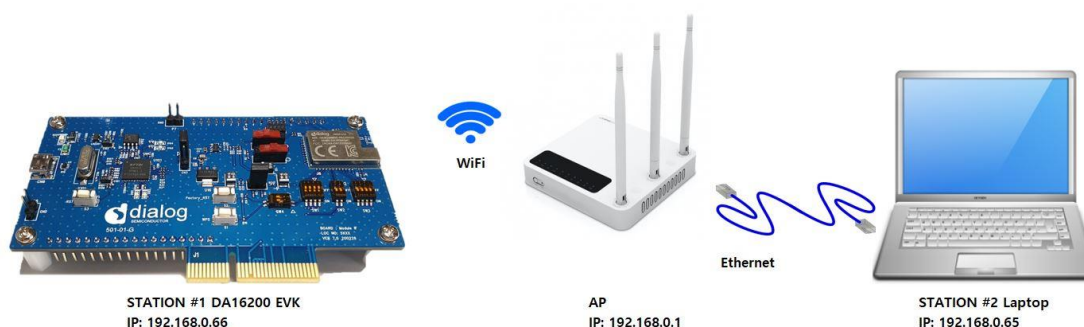

Figure 46: Ping Test Environment
The ping communication test requires an access point (AP) and two stations consisting of a DA16200 or DA16600 EVB and a desktop. The two stations must be connected to the same sub-network AP as shown in Figure 46.